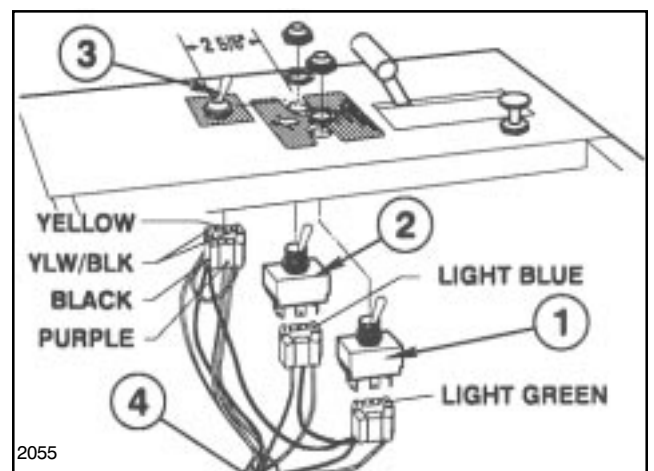

**FIG. 11**
4. Mount Fuse Block to Cover using two (2) #10 NC x 5/8" rec. rd. head machine screws and hex nuts.
6. Route Wiring Harness through floor and back through axle mounting bracket. Route the harness section with three (3) clear 6-pin connectors back along left side of Vehicle to behind engine. Then guide up, into the Seat Box.
7. Install Sonic Boom™ Decal and Indicator Light on Dash (11/16" DIA. hole required.) Connect Harness Leads to Light. Reinstall the Console Cover. See FIG. 11.